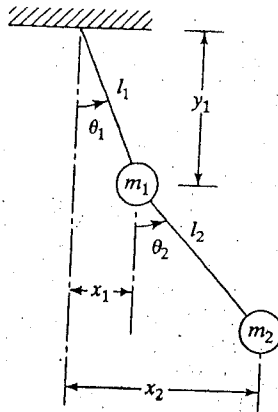

FIGURE 5.17
- 5.2 Set up the differential equations of motion for the double pendulum shown in Fig. 5.17, using the coordinates x_1 and x_2 and assuming small amplitudes. Find the natural frequencies, the ratios of amplitudes, and the locations of nodes for the two modes of vibration when $m_1 = m_2 = m$ and $l_1 = l_2 = l$.